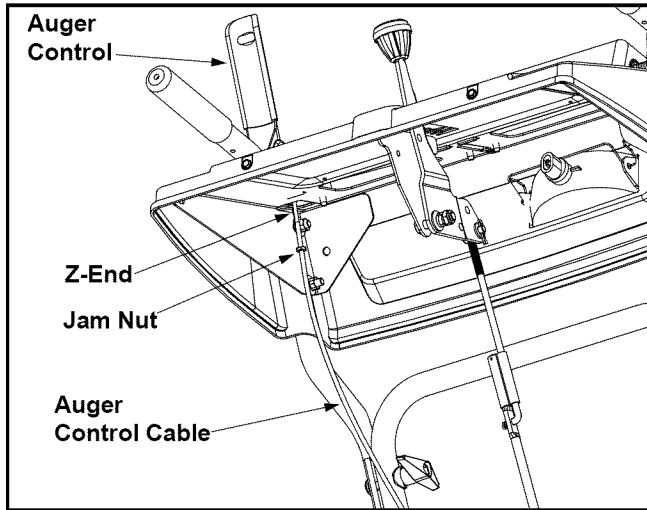

Figure 5
- Retighten the hex jam nut. See Figure 5.
- Loosen the jam nut on the traction drive cable and adjust the cable as necessary. Refer to Figure 5.